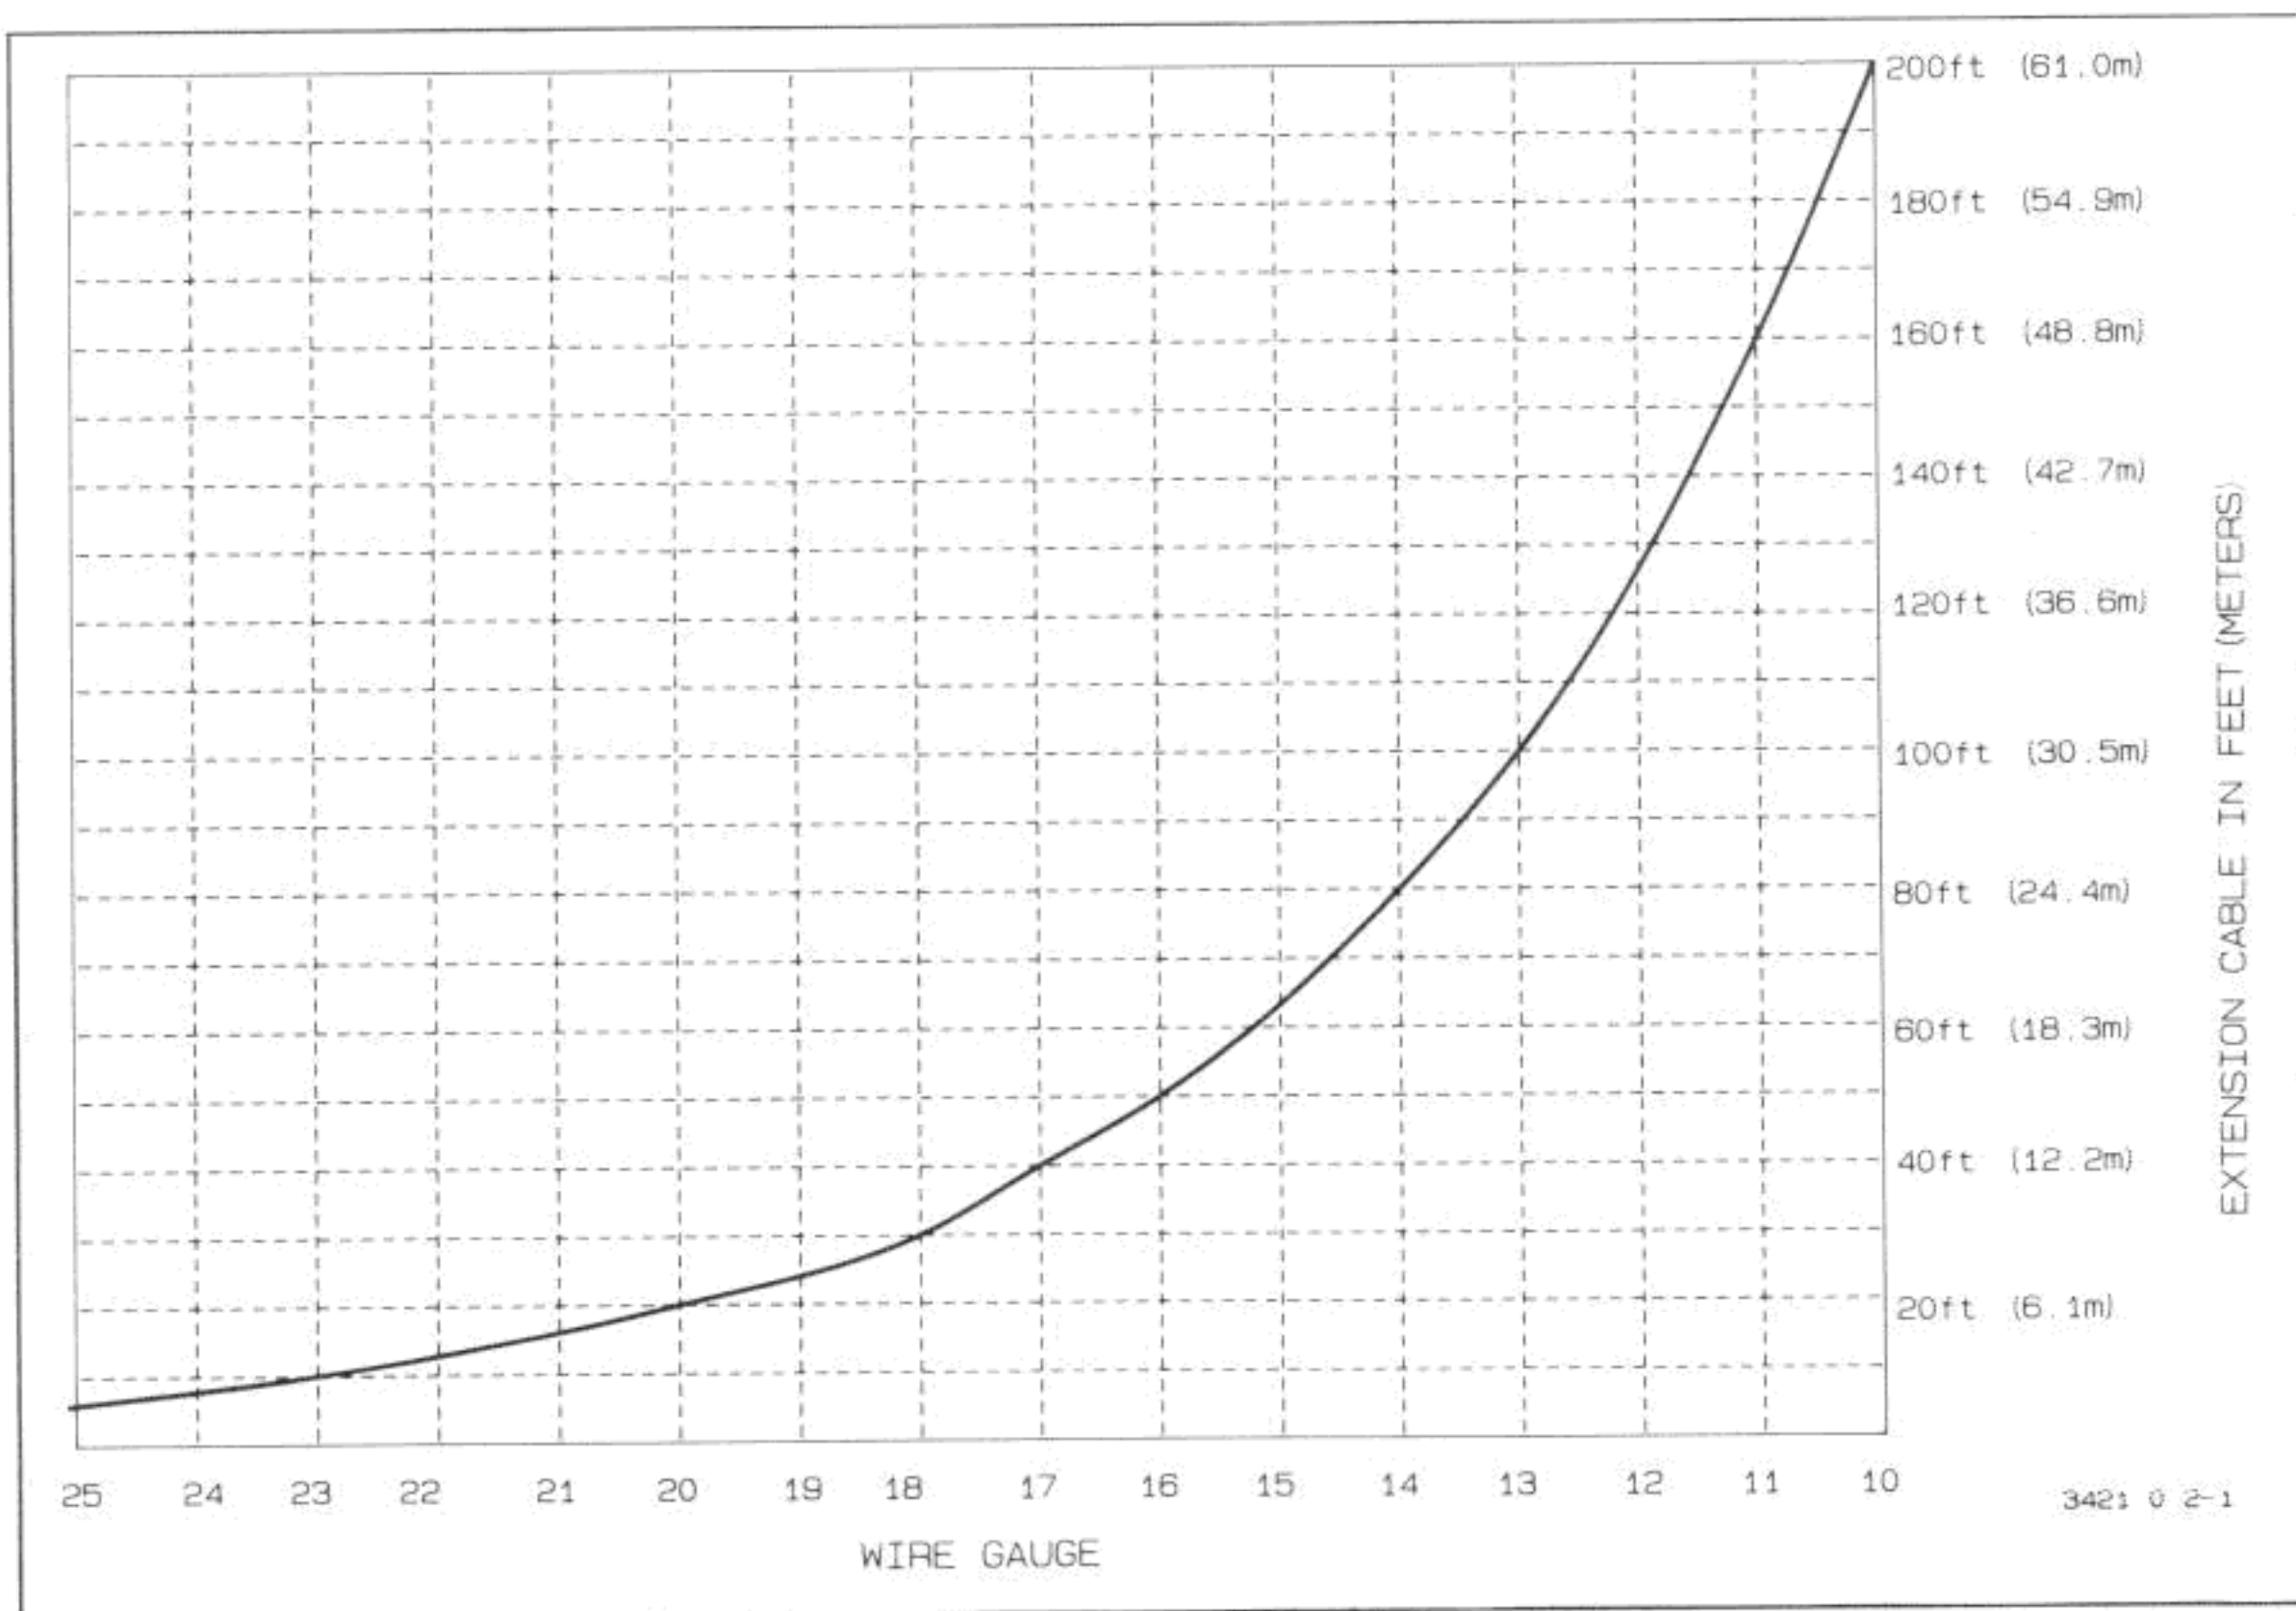

Figure 5-2-1. Wire Gauge Vs. Cable Length
| To maintain the specifications in this table, the external 12V source must have good load regulation, and the lead resistance specifications outlined in Figure 5-2-1 must be observed. | |
5-2-7. The 6' (~ 1.85 m) cable assembly that is provided with this option is to be used to connect the external 12 Vdc source voltage. If this cable is too short, another cable can be spliced onto it. When splicing cables, make sure to use the proper gauge wire (see Figure 5-2-1). Inadequate gauge wires can cause improper operation of this option. The total wire resistance must not exceed 0.2 Ω (i.e., the combined resistance of both wires in the cable assembly). Splices should be staggered, have good mechanical connections, and can be either soldered or crimped. Once the splices are made, insulate them with heat shrink tubing or electrical tape. It is not recommended that you disassemble the cable connector and resolder a new cable to it.
a. Determine the cable length extension required. Then refer to Figure 5-2-1 to select the proper wire gauge. For example, if you need to splice on a 20' (6.1 m) cable, choose a wire gauge no less than 20 AWG.